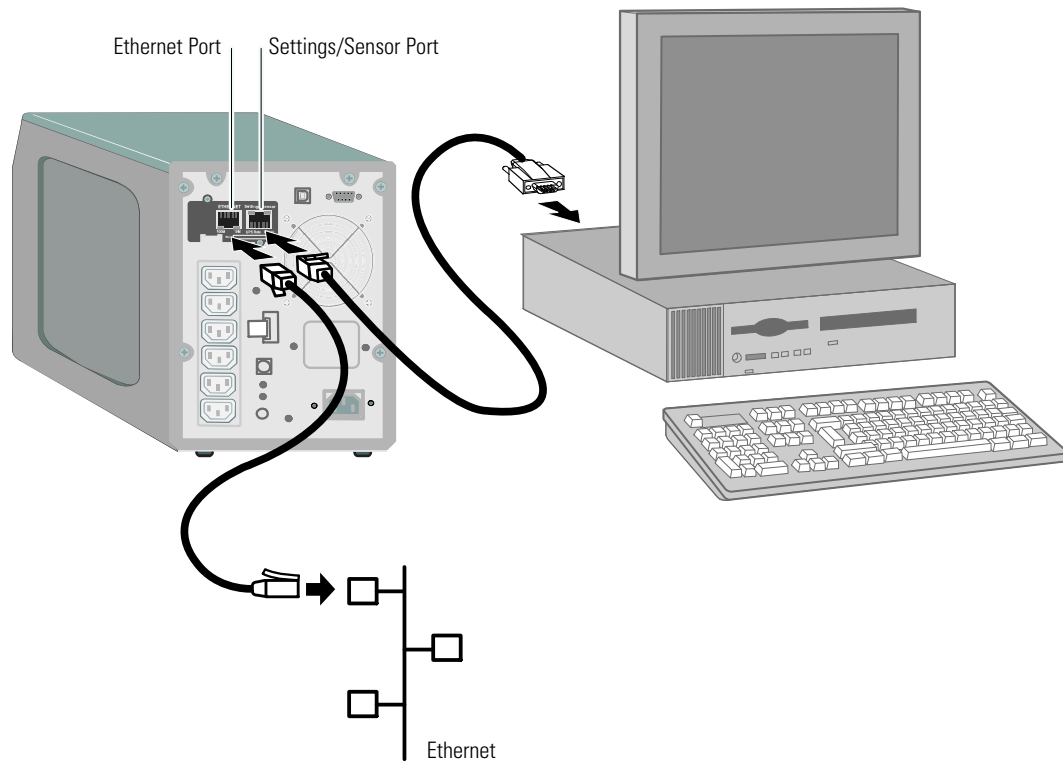

Figure 6. Connecting the Card
1. Plug the RJ-45 end of the supplied serial cable into the Settings/Sensor port on the card (see Figure 6).
3. Connect an active Ethernet cable (not supplied) to the Ethernet port on the ConnectUPS-MS Card (see Figure 6).